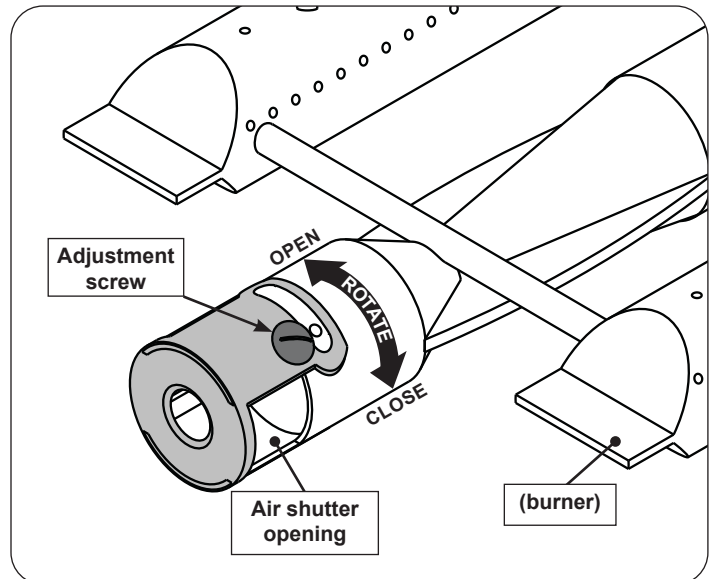

Fig. 49-2 Main burner air shutter adjustment detail
1. To adjust the air shutter, loosen the adjustment screw with a flathead screwdriver. Then rotate the shutter to open or close it. See Fig. 49-2 for details.